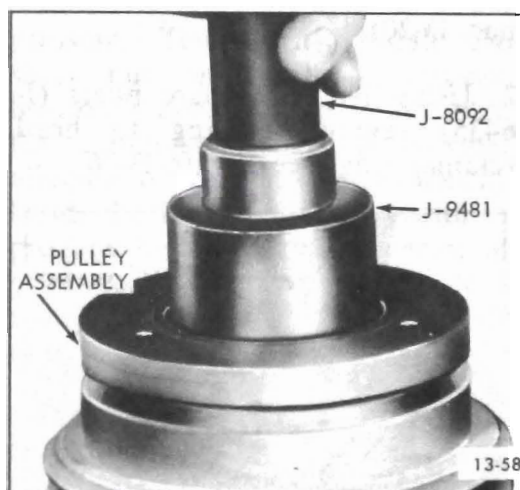

Figure 13-82 Installing Pulley Assembly
4. Drive pulley assembly onto hub of front head (see Figure 13-82) using installer (J-9481) and handle (J-8092).